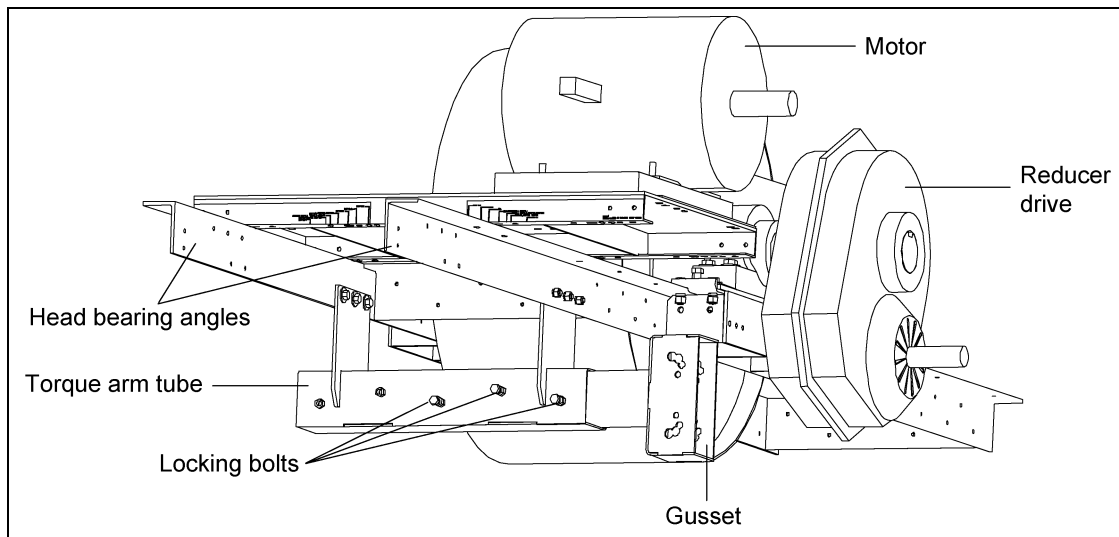
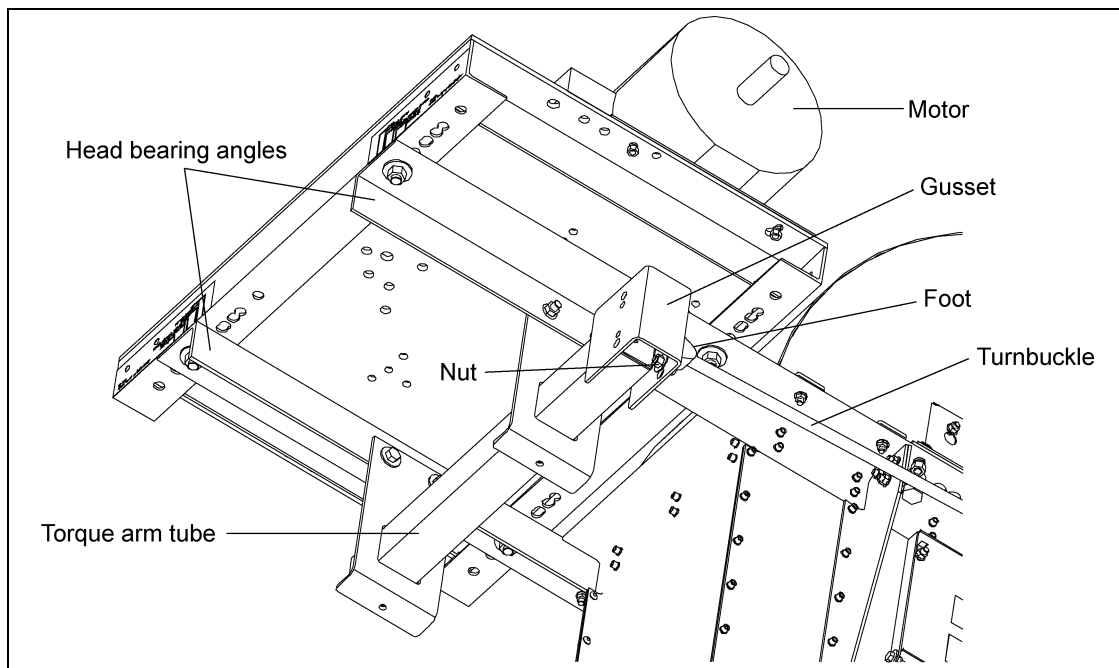

Figure 11D Torque Arm (30"-48")
Figure 11E Torque Arm (16"-24")
1. Place the torque arm tube assembly on the head section by sliding the two (2) gussets of the torque arm assembly between the head bearing angles.
3. Attach with the proper hardware. (See Figure 11D and Figure 11E.)